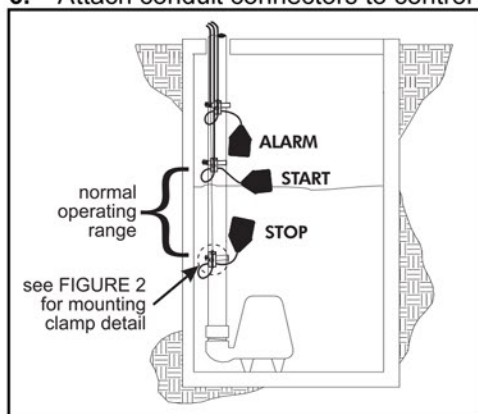

FIGURE 1 - Three float simplex (pump down installation)
2. Determine your normal operating level, as illustrated in **Figure 1**.